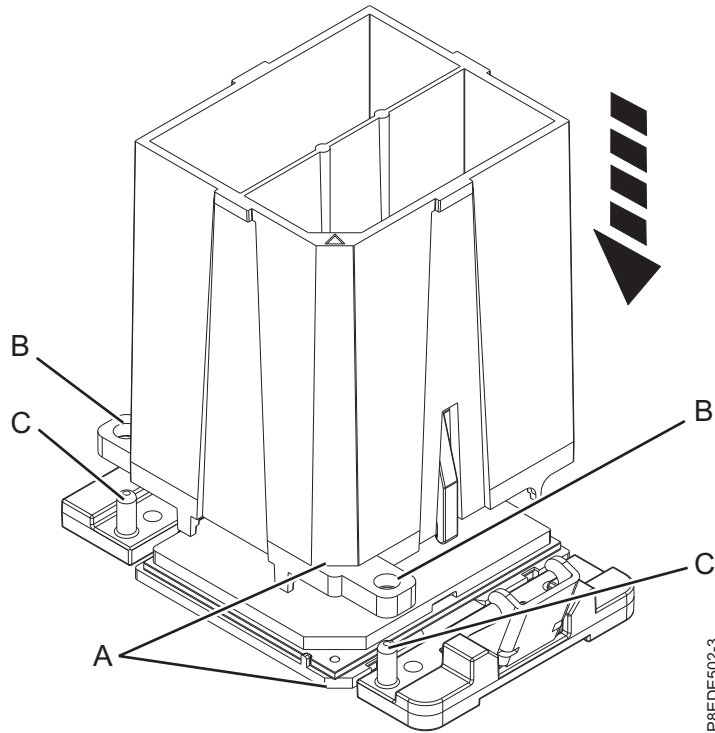

Figure 6. Lowering the removal tool onto the system processor module
- a. Using the supplied removal tool, align the beveled corner (A) of the tool over the beveled corner of the system processor module as shown in Figure 6 on page 8.
- b. Lower the tool over the system processor module by ensuring the two guide pins (C) are inserted into the alignment holes (B) on each side of the tool.